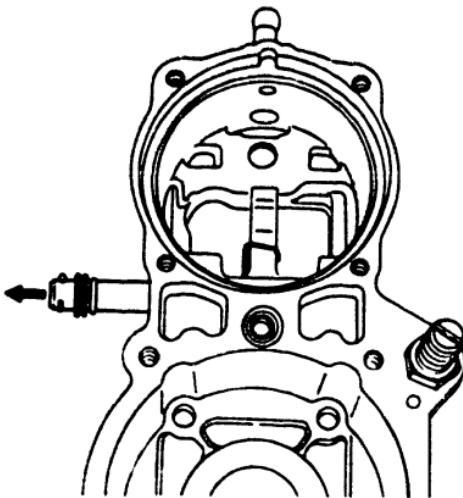

**Fig. 43 Removing the screw**
1. Using a wrench ( SW 7 mm ) remove the screw (1/17) securing the stopping-lever. (Fig. 43)